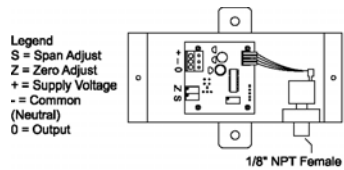

Figure 5. Differential Pressure Transducer With VDC Output
1. Remove the blue terminal block by carefully pulling it off the circuit board. See Figure 5.